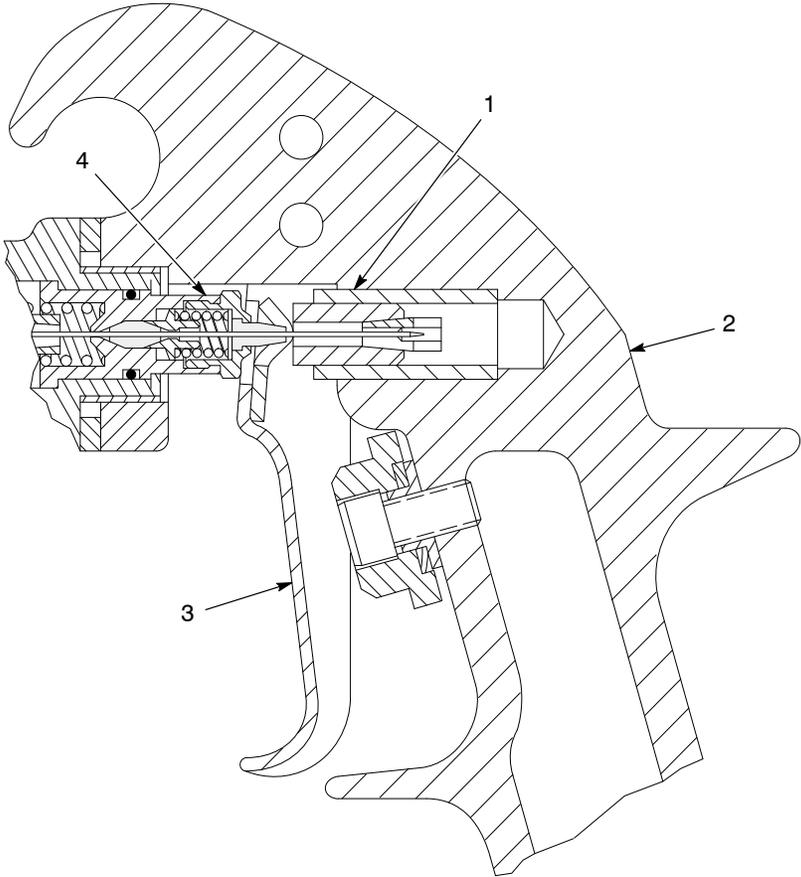

Figure 4 Correct Trigger Installation
2. Apply a light coating of general purpose grease to the stop sleeve (9) and insert it into the gun handle.
3. Install the O-rings and PTFE seals, if used, on fittings (20), and install fitting(s) into the head.
4. Screw the ball needle (4) onto the packing cartridge (5) and tighten securely.
5. Apply O-ring grease to the outside of the packing cartridge (5) and O-ring and install them into the head (6).
6. Install the insulator sleeve (8) into the handle. Hold the gasket (7) in place and install the head (6) onto the handle, making sure that the end of the packing cartridge (5) slides into the stop sleeve (9).
7. Install the insulators (10), washers (11), and screws (12) into the handle to secure the head (6) to the handle. Tighten the screws securely.
8. See Figure 4. To install the trigger:
- a. Locate the end of the packing cartridge placed inside the stop sleeve (1).
- b. Slide the trigger (3) over the packing cartridge (4) so that the packing cartridge fits into the trigger slot, as shown.